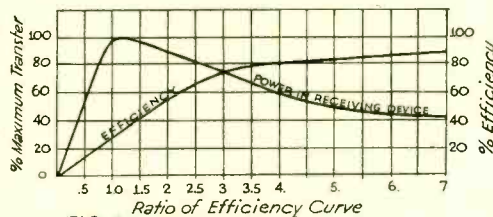

FIG. 1
Let us see what IMPEDANCE has to do with plate efficiency. A vacuum tube AC generator has, as have all AC generators, a definite internal resistance to the flow of current. As we are dealing with AC we shall call it DYNAMIC PLATE IMPEDANCE. It varies with the applied plate voltage and the grid excitation, but for any given set of conditions it can be measured and has a definite impeding effect on the current flowing through the plate circuit of the tube (from plate to cathode, or filament). It has been found, by mathematics and experiment, that certain definite things happen to the power output and efficiency when different values of LOAD IMPEDANCE are coupled to this plate circuit. Fig. 1 shows some curves demonstrating this fact. From those curves we see that, GIVEN A CONSTANT VOLTAGE GENERATOR, THE GENERATOR EFFICIENCY INCREASES AS THE RATIO OF IMPEDANCE MISMATCH INCREASES—BUT THE POWER OUTPUT IS MAXIMUM WHEN THE LOAD IMPEDANCE IS MATCHED TO THE INTERNAL IMPEDANCE OF THE GENERATOR.
The question arises, "we get higher plate efficiency by mis-matching the plate and load impedances, but has not our power output declined?" From the power curve in Fig. 1 it looks as if the power output, when the mismatch is 5 to 1, declines to only 55% of that available when the plate and load impedances are equal.
**T**HE most important use for impedance mis-matching is found in the class C radio frequency amplifier, as used in the final amplifier of an amateur transmitter. Here we want high plate efficiency and high power output at the same time, which is seemingly impossible from a study of the curves shown in Fig. 1. We again ask you to keep in mind the fact that the curves are for constant voltage generators, and also to remember that the class C amplifier is NOT a constant voltage generator, if certain things are done to it.